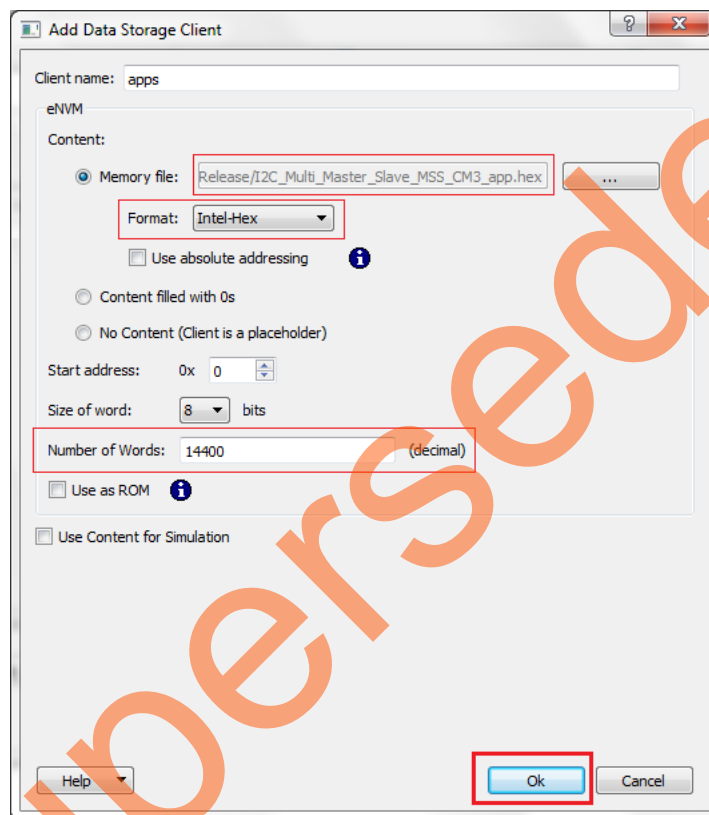

Figure 30 • Add Data Storage Client Window
7. Click **Ok** in the **Add Data Storage Client** window (refer to Figure 30).